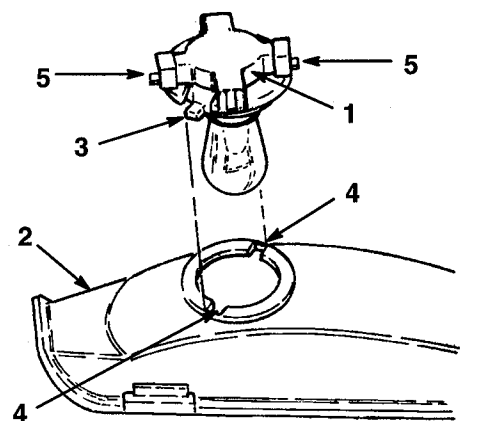

Figure 15
3. Rotate the bulb holder 1/4 turn counterclockwise and remove it from the reflector (Fig. 15).
2. The bulb holder has two tabs (Fig. 15). Align the tabs with the slots in the reflector, insert the bulb holder into the reflector and rotate it 1/4 turn clockwise until it stops.